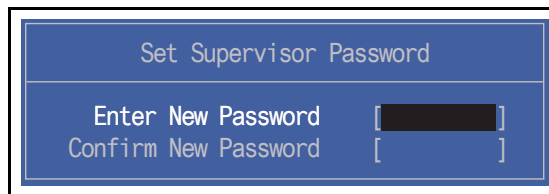

Figure 2-4. Setting a Password: Set Supervisor Password
1. Use the ↑ and ↓ keys to highlight the Set Supervisor Password parameter and press **Enter**. The Set Supervisor Password dialog box is shown. (Figure 2-4)